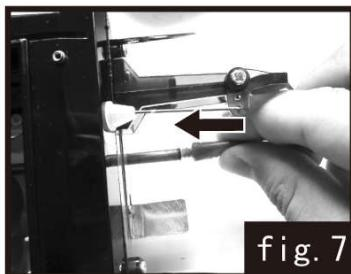

fig. 7
- 7.In amoderate amount of lubrication oil to the tail of the spindle tube.(see fig.7)